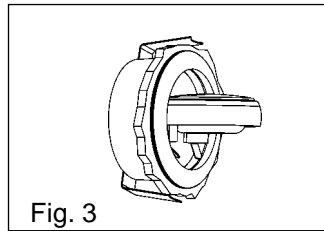

Fig. 3
- Lock swivel ring to tweeter housing and make connections, then insert tweeter (terminals first) into swivel-flush cup. (Fig. 3)